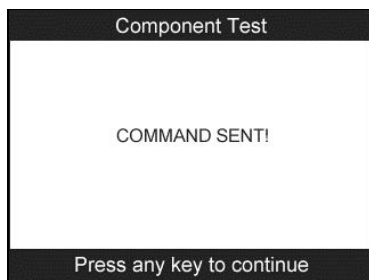

Figure 6.25
- 3) If the test has been initiated by the vehicle, a confirmation message will be displayed on the screen (Figure 6.25).